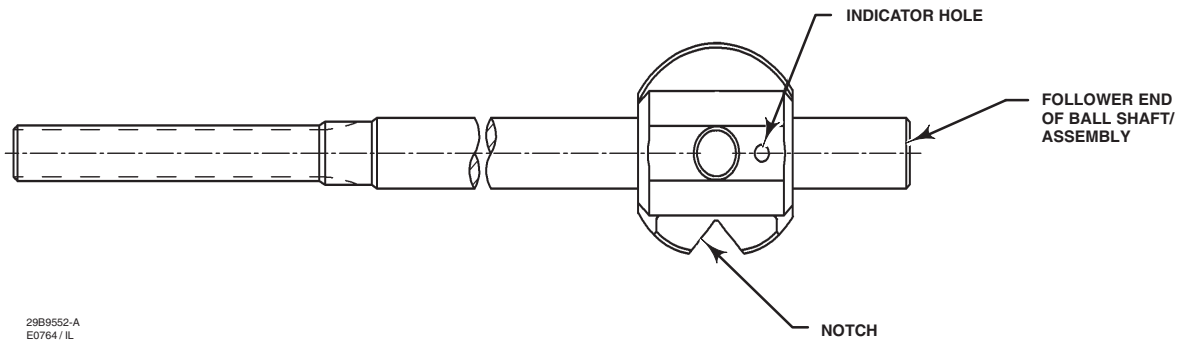

Figure 19. Location of Indicator Hole in Micro-Notch Vee-Balls
There is an indicator hole drilled in all Micro-Notch balls. This indicator hole must be oriented closest to the follower end of the ball/shaft assembly. See figure 19.
**There is an indicator hole drilled in all Micro-Notch balls. The orientation of this hole in the ceramic Vee-Ball is to the right of the screw in the ball, and must be located closest to the follower end of the ball/shaft assembly. See figures 19 and 22.**